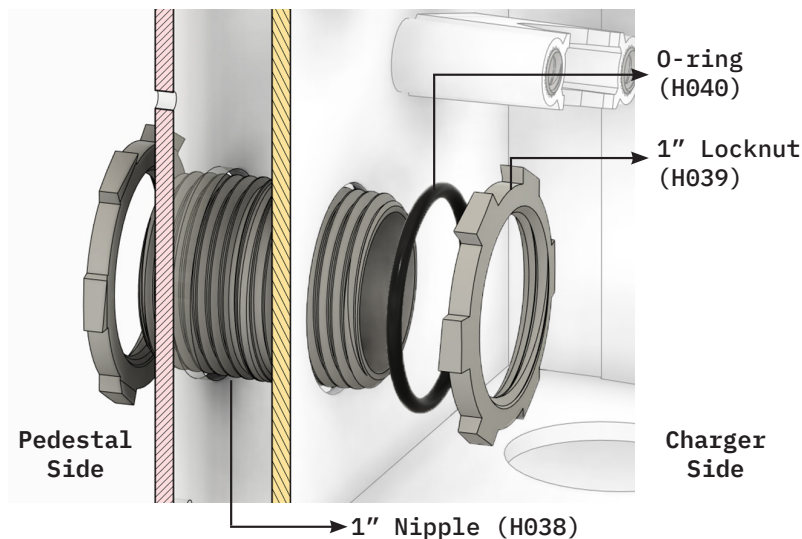

Figure 3-9 Rear Entry Connection to Pedestal Using Chase Nipple
Step 1: If mounting to a Lynkwell pedestal with rear entry, guide the electrical wires through the lock nut, O-ring, and chase nipple (see **Figure 3-9**). Then insert the chase nipple assembly into the charger enclosure and attach using the second O-ring and lock nut.